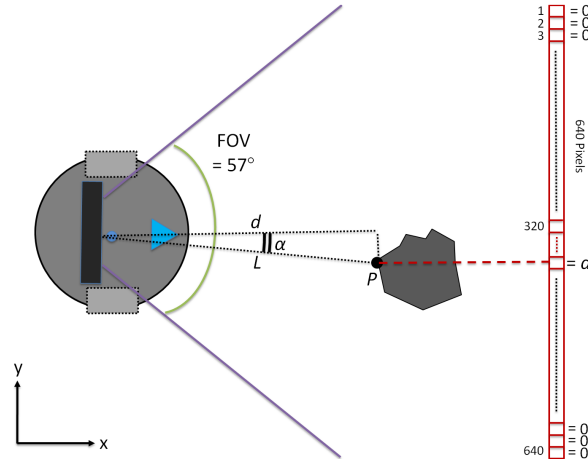

Figure 1.1: Depth data received from Kinect sensor mounted on the Quanser QBot 2 Mobile Platform.
Depth data received from the Kinect sensor in QUARC is represented as a 480×640 depth image. For simplicity, we will only use one row of the depth image data for 2D mapping (each row includes 640 pixels) as illustrated in Figure 1.1.
The value of each pixel represents the distance (in millimeters) from the camera to the object, and should be mapped to the corresponding (x, y) point in the world coordinate frame. For example, assume we want to map the point P , shown in Figure 1.1, represented by the 400th pixel of the centre row to the world coordinate frame. The value of this pixel received from the Kinect sensor is d , which is the distance of the point P to the camera plane. Therefore $P_x = d$ mm. To calculate P_y the angle α is required as $P_y = L \sin(\alpha) = d \tan(\alpha)$.
Figure 1.1: Example of the particle filtering algorithm used for localization of the QBot 2. the green dots represent the initial values for the particles, the red dots show the particles updated in real-time, and the black dot shows odometric data localization
Figure 1.1 shows an example of a particle filtering algorithm for localization of the QBot 2. Here the green dots represent the initial particles, and the red dots show the particles after the robot moves for a few seconds. The black dot is the location of the data based on pure encoder measurements. It is clear that the particles are converging to the actual location of the robot within the map.
Make sure the robot's surroundings match the map you will be using. Put the QBot 2 in an initial location in the space, making sure the axes of the QBot 2 match those of the map you have loaded as shown in Figure 1.1. Then go through the following steps.
2. Make sure the QBot 2 is facing towards the x axis of the environment map as shown in Figure 1.1. The robot can be anywhere within your mapped region, but make sure it is no closer to any objects than 0.5 m so that you get valid non-zero data from the Kinect sensor. To better understand this concept, try placing the robot about 0.5 m away from the origin of the map (the initial location of the QBot 2 when you created the map). In this case the odometric data will not represent the exact location of the QBot 2 (odometric data is always reset to zero when you start the robot, which is the origin of the map).